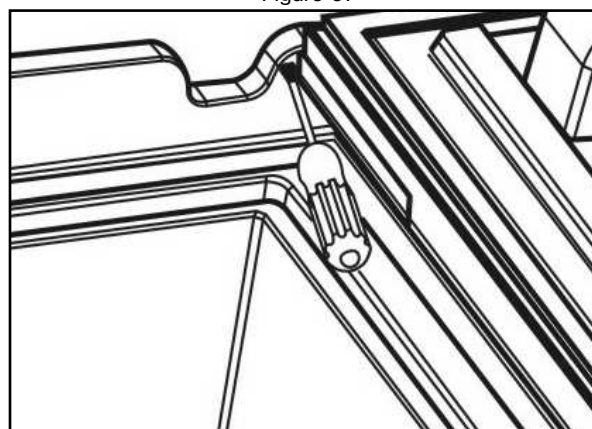

Figure 10.
- Loosen up 6 screws (1) of footframe and remove the footframe.
- Open the door and snap out the fixing tab (2) of the upper hinge pin by the help of screwdriver and push out the pin. (fig. 10.)
- Remove the bottom hinge pin (3) and the upper and lower hinge plug (4) in the same way as in case of the upper hinge pin.
- Snap in the lower hinge pin (3) to the desired side.
- Put back the door and the hinge washer and snap in the upper hinge pin (2).
- Snap in the 2 hinge plugs (4) too.